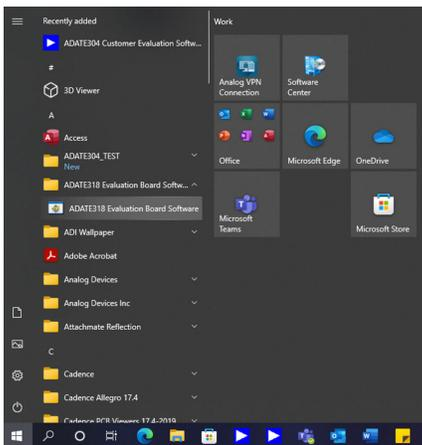

Figure 2. ADATE318 Evaluation Board Software in Start Menu
- ▶ Select the **ADATE318 Evaluation Board Software** in the Windows **Start** menu (see Figure 2).